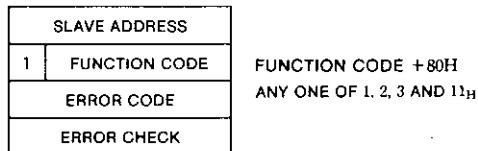

Fig. 6.2 Response to a Wrong Query Message
If the query message is defective (except in the case of transmission error), the slave unit takes no action and returns the response message shown in Fig. 6.2.
- A transmission error (overrun, framing, parity, CRC-16, or LRC) is found in the query message. In case of CRC-16 or LRC error with U84, the response shown in Fig. 6.2 will be made.